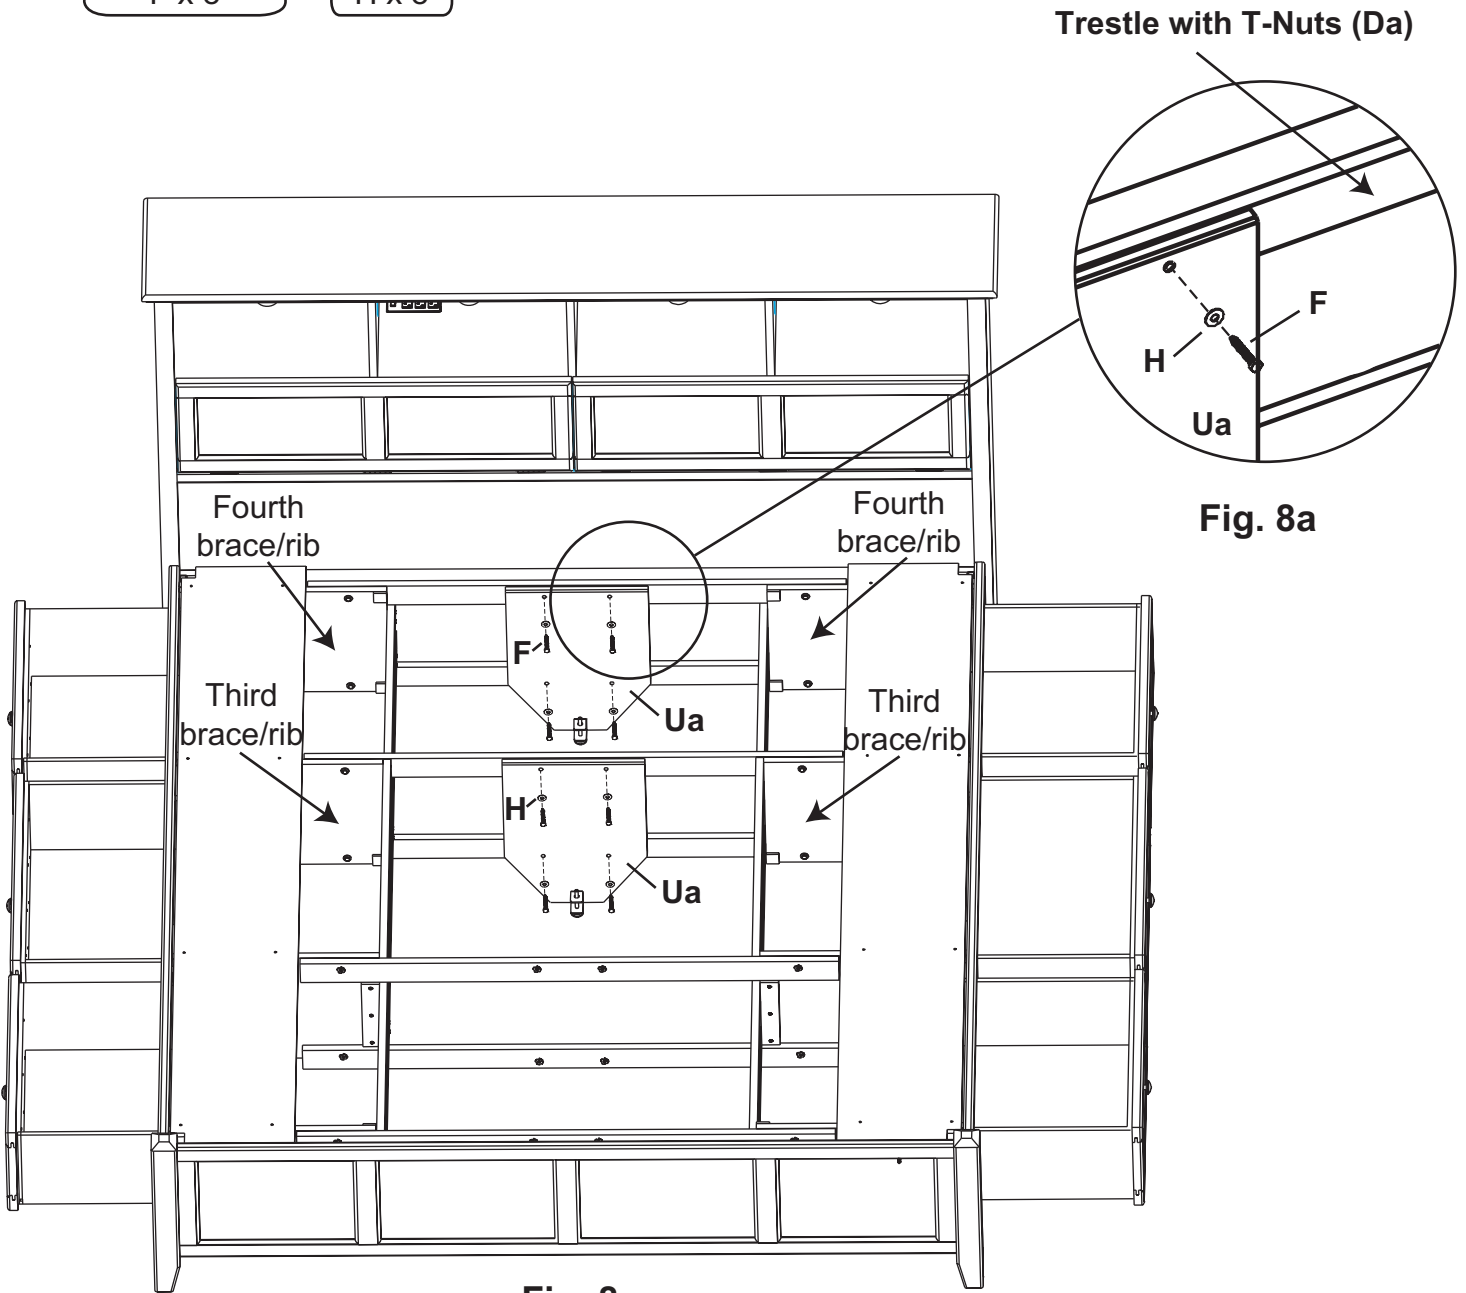

**Fig. 7**
7. Face the Headboard and stand in between the third and fourth braces. Place a Trestle with T-Nuts (Da) on the outside surfaces of the third upper left and right braces so the t-nuts sit near the top. See Figures 7 and 7a. Line up the upper edges of the trestle and braces so they are nearly flush. Insert two 1/4" x 1-3/4" Hex Bolts (F) and Washers (H) and tighten.
Place a Trestle with T-Nuts on the outside surface of the third left and right **lower** braces so that the t-nuts sit near the bottom. Line up the bottom edges of the trestle and braces so they are nearly flush. Insert two 1/4" x 1-3/4" Hex Bolts (F) and Washers (H) and and tighten. See Figures 7 and 7a.